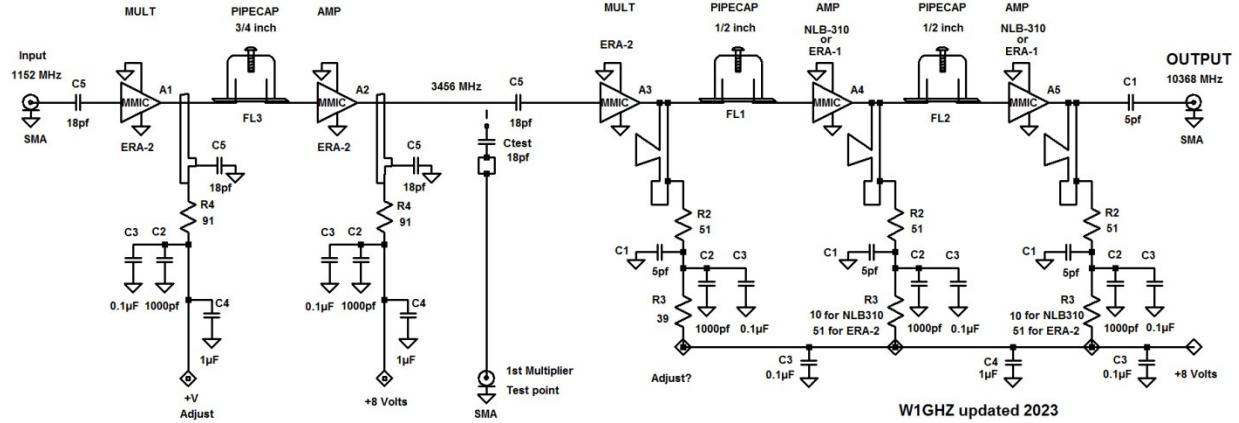

Figure 2 – Updated schematic diagram of 10 GHz Personal Beacon
A bit of explanation about the circuit, shown in the latest schematic diagram in Figure 2. In the center of the thin bias line from R2 to the MMIC is a Radial Stub; this acts as a quarter-wave stub over a fairly wide frequency range, so it presents an RF short circuit to the center of the bias line. The thin bias line ($Z_0 \sim 100$ ohms) is a quarter wavelength long on each side of the radial stub, transforming the RF short circuit to an open circuit at the MMIC output transmission line so it does not affect RF performance. At the R2 end of the line is also an RF open circuit, which is bypassed by the rectangular quarter-wave stub. R2 and R3 set the MMIC current, and lower frequency decoupling over a wide range is provided by C1 (small value for microwaves), C2 (VHF), and C3 (HF). All this separates the MMICs from any lower frequency interaction or coupling between stages.